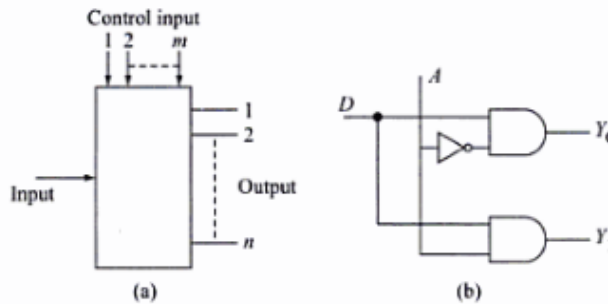

Figure 4.9: a)Demultiplexer block diagram b)Logic circuit of 1:2 demultiplexer
- It is a digital circuit with 1 input and many outputs (Figure: 4.9).